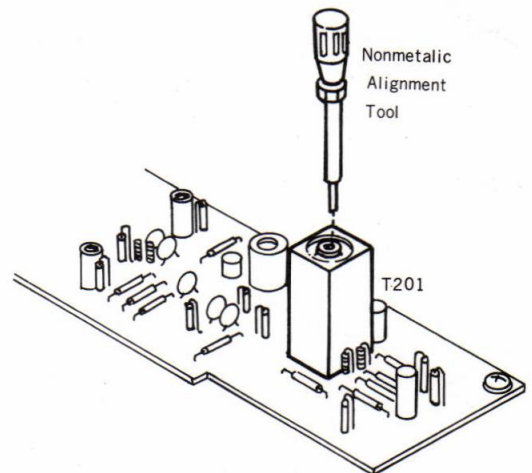
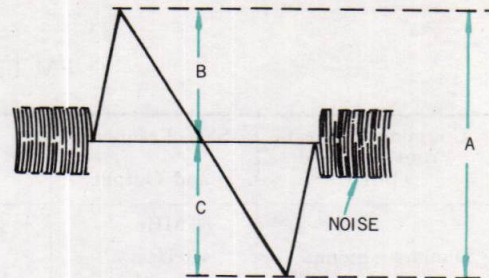

Fig. 3-3 Fm discriminator adjustment
Fig. 3-4 "S"-curve response
4. Turn the top core of transformer T201 with the hexagonal-head alignment tool (as shown in Fig. 3-3) to obtain an "S" curve response (as shown in Fig. 3-4).
6. Turn the top core slightly to equalize negative and positive peaks as shown in Fig. 3-4.